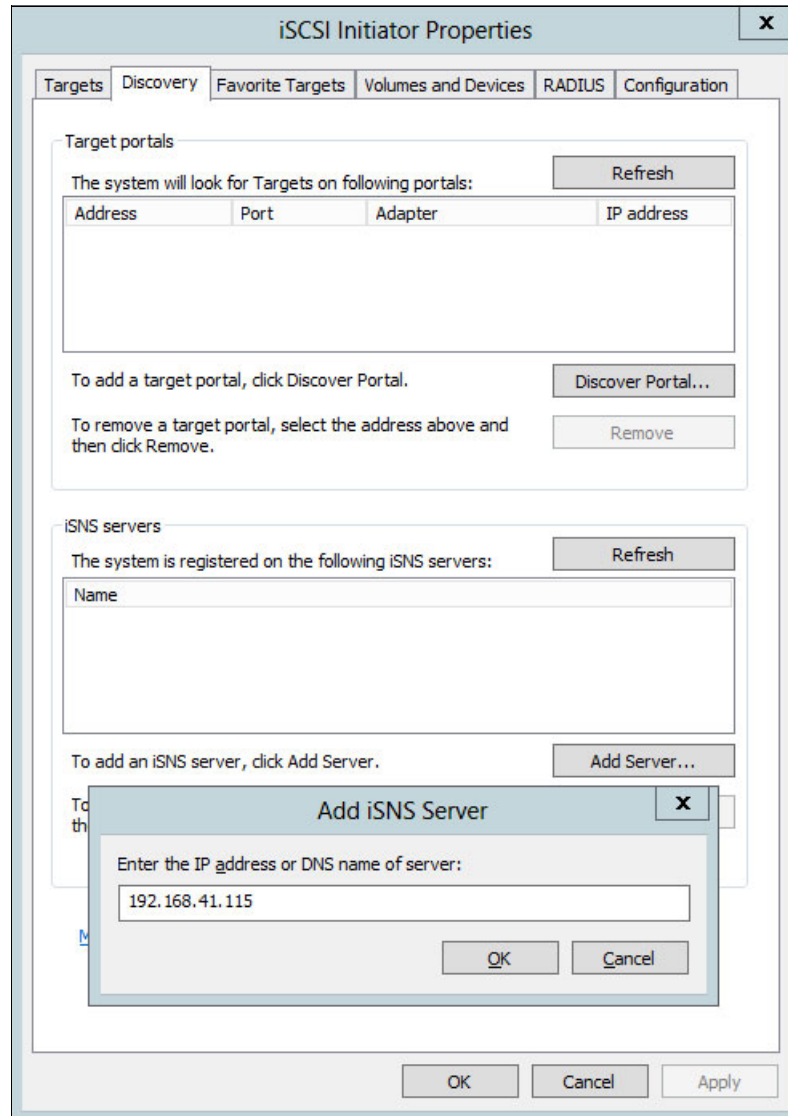

Figure 7-28 Adding an iSNS server IP
1. In the Discovery tab of the iSCSI initiator software, click **Add Server** in the iSNS servers pane, as shown in Figure 7-28.